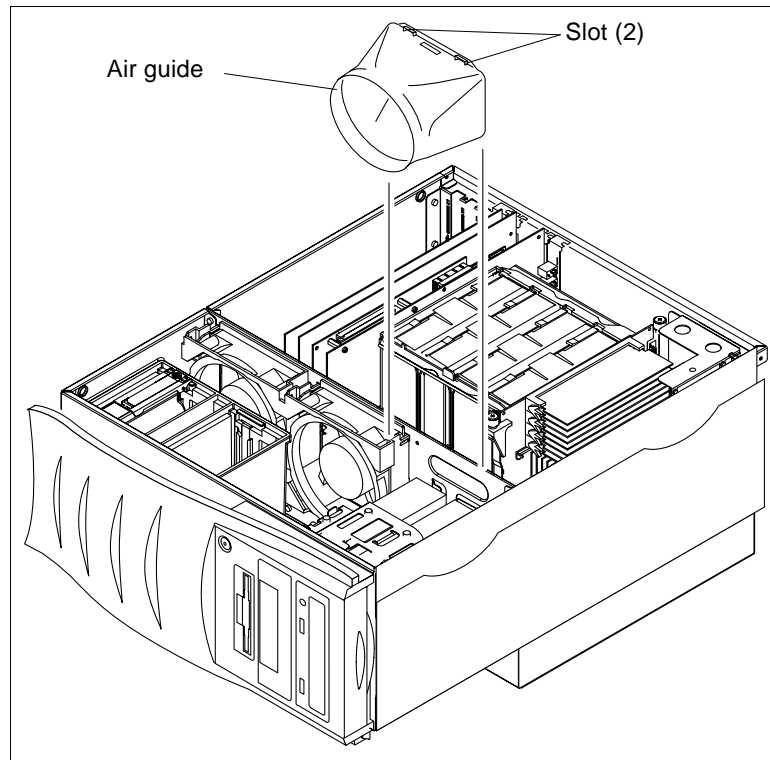

FIGURE 7-9 Removing and Replacing the Air Guide
1. **Replace the air guide as follows (FIGURE 7-9):**